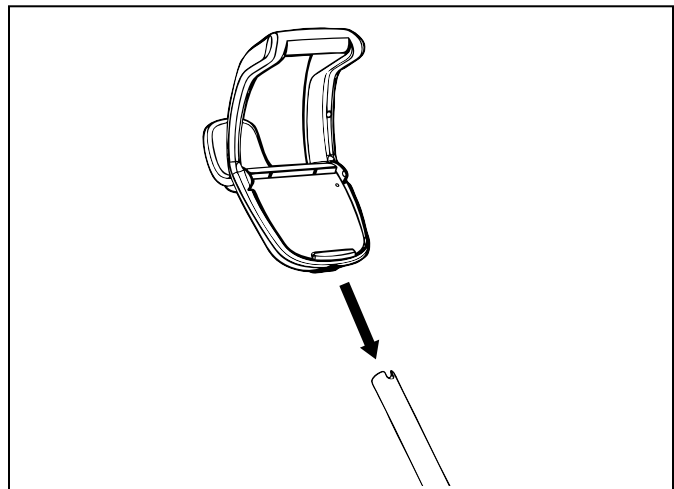

Figure 6. Attach Caddy Handle
7. Slide the control unit base / caddy handle attachment down over the metal tubing until it snaps into place. (See Figure 6).